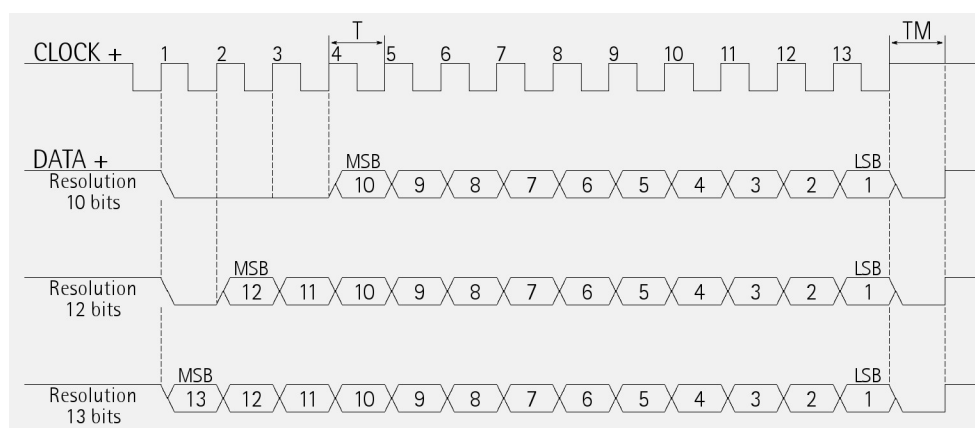
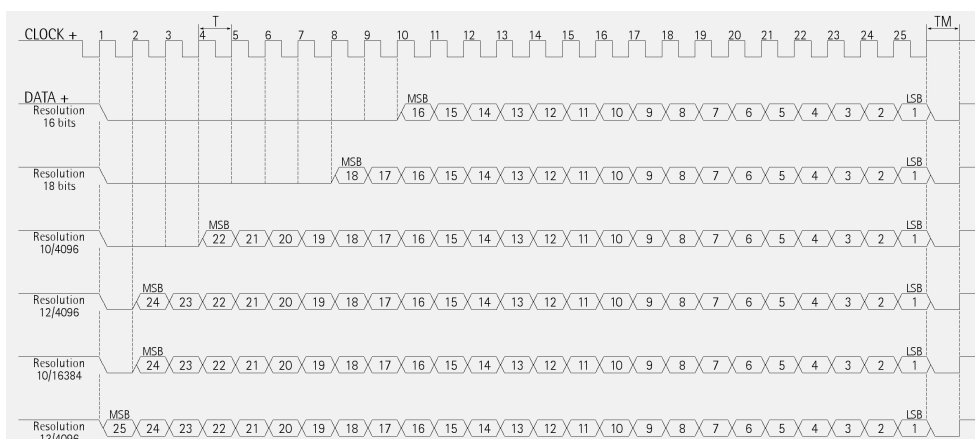
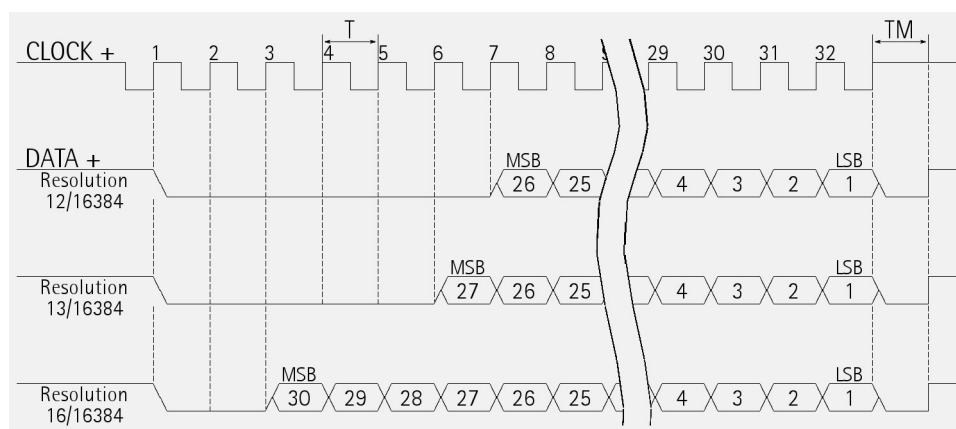

Figure 4 - Examples of LSB RIGHT ALIGNED protocol for up to 13-bit resolution models
Figure 5 - Examples of LSB RIGHT ALIGNED protocol for up to 25-bit resolution models
Figure 6 - Examples of LSB RIGHT ALIGNED protocol for up to 32-bit resolution models
5.4 "LSB RIGHT ALIGNED" PROTOCOL (Figure 4, Figure 5 and Figure 6)